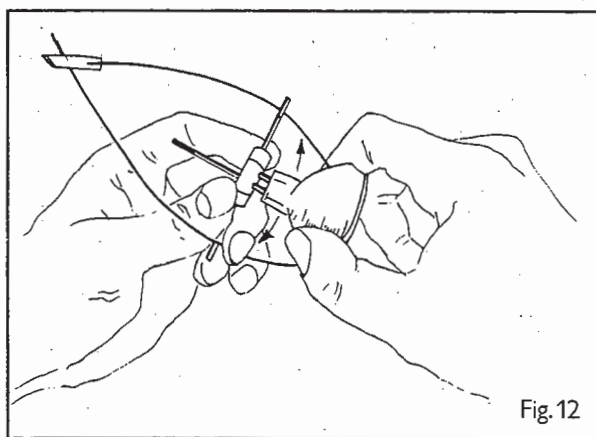

Fig. 12
1. Insert the two pins in the reflector into the slits in the lamp-holder by grasping the reflector firmly and moving it gently back and forth, thereby easing the pins into position (Fig. 12). Push the pins well into the body of the holder until they are securely in position.